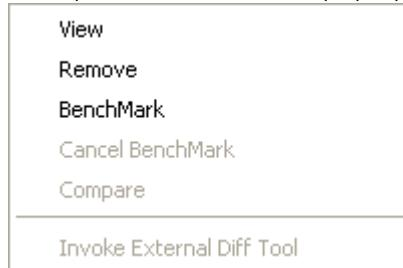

Figure 4.55 Script Result File right-click menu
- a) right-clicking the script result file in the Project Workspace window (Scripts tab) to invoke the pop-up menu shown in figure 4.55;
- a) right-clicking the result file in the Project Workspace window (Scripts tab) to invoke the pop-up menu shown in figure 4.55.
- right-clicking the benchmark result file in the Project Workspace window (Scripts tab) to invoke the pop-up menu shown in figure 4.55.
- right-clicking the result file that you wish to compare in the Project Workspace window (Scripts tab) to invoke the pop-up menu shown in figure 4.55.